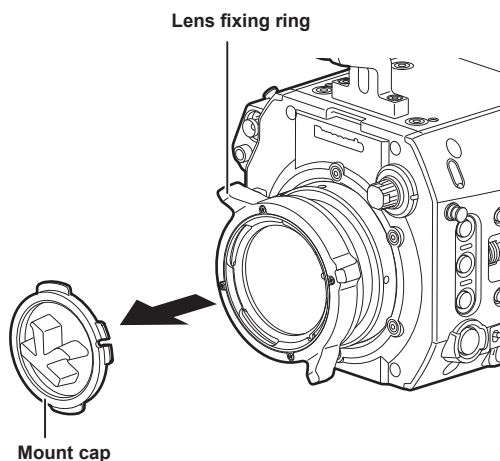

Fig. 1
5 Fix the two mounting screws. (Fig. 1)
- 1** Turn the lens fixing ring and remove the mount cap. (Fig. 1)